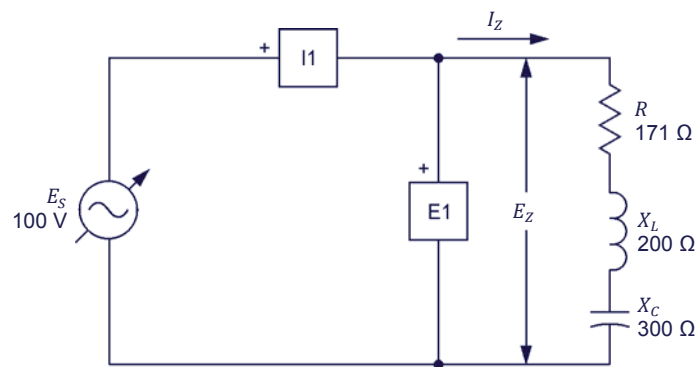

Figure 2-20. Series ac circuit containing a resistor, an inductor, and a capacitor.
39. Set up the circuit shown in Figure 2-20.